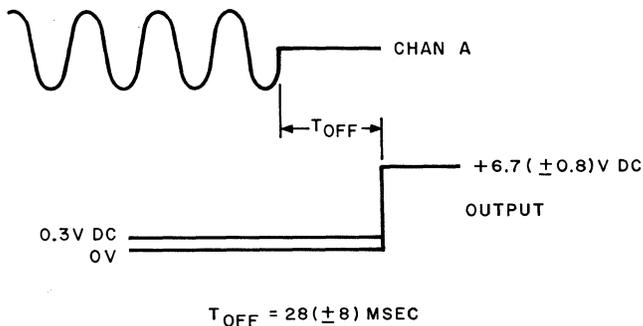

Fig. 14 — Single Frequency Detector Test
- (6) Set the scope EXT SYNC TRIGGER to the (+) position. The output waveform at terminal 14 shall be as specified in Fig. 14.